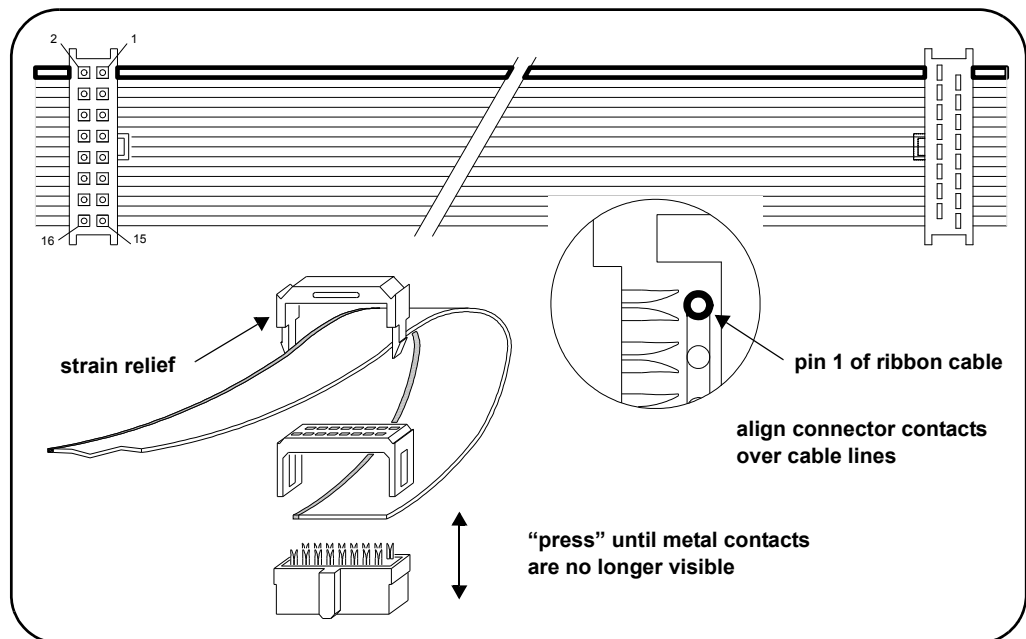

Figure 1-7. Y1159A 16-pin to 16-pin Connector Orientation and Cable Routing.
2. Position the ribbon cable connectors as shown in Figure 1-7. Route the cable **through** the connectors, noting the location of pin 1 on the cable. By convention, pin 1 is indicated in red (the dark line in the drawing).
6. Fasten the strain relief clamps over the cable and into the ribbon cable connectors as shown in Figure 1-7. Remove any excess cable after the clamps are in place.